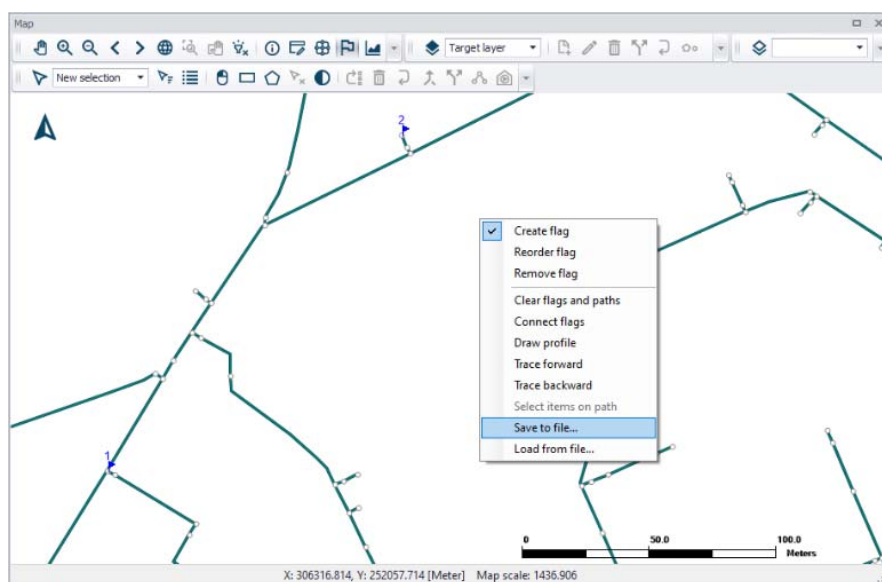

Figure 20.34 Set flags defining the path of the profile plot on the model map
- Click on the starting location for the profile path. Flags can be set on nodes, junctions, and rivers. This will place a small flag at the selected location along with the number of the flag (Figure 20.34).
- Continue setting flags on the map until the path is well-defined. The horizontal plan will then look as seen in Figure 20.34. You may save the set flag information using the 'Save to file...' option from the local context menu. The path information is saved to a *. PATH file, which can be loaded in another session via the 'Load from file...' option.